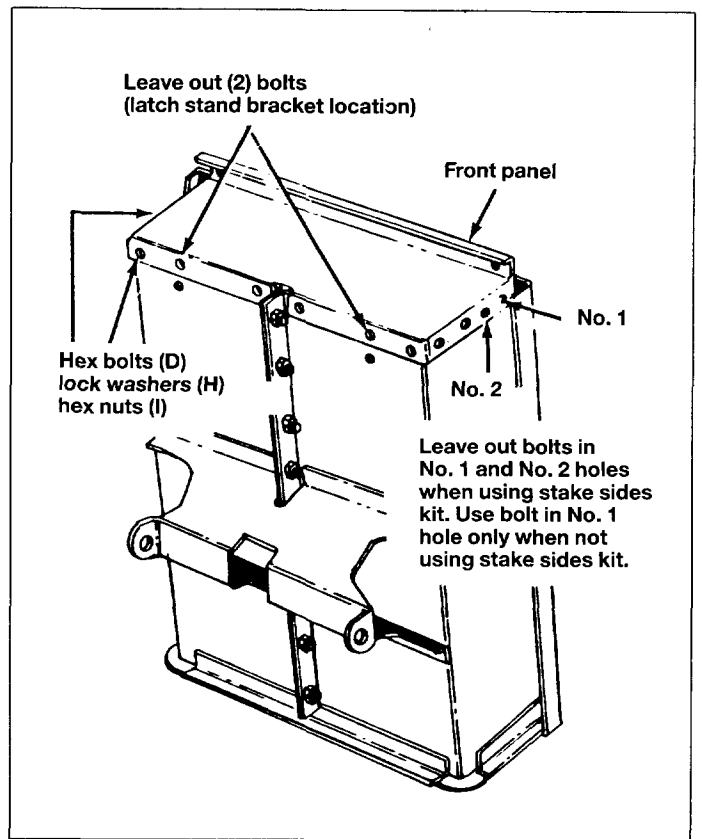

Fig. 8
13. Assemble front panel to open end of cart body, using 1/4" x 1/2" (6 mm x 12 mm) hex bolts (D), lock washers (H) and hex nuts (I). Bolt heads to inside of cart. See figure 8.
N.B. Do not assemble bolts in No. 1 or No. 2 holes when using optional stake sides kit (each side). See figure 8.